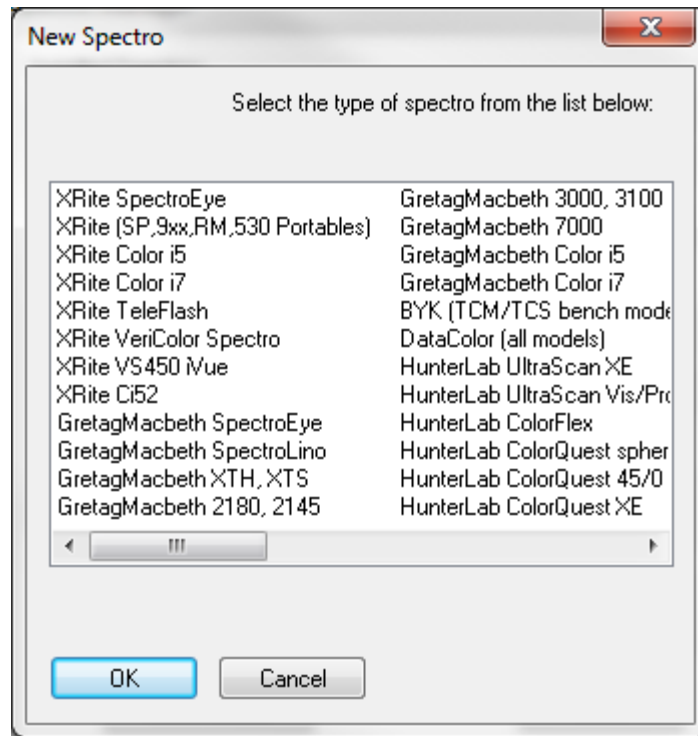

Figure 2 —New Spectro
3. Click on the “Install New...” button. A second dialog titled “New Spectro” will appear with a list of available instruments for Color iControl (See Figure 2).